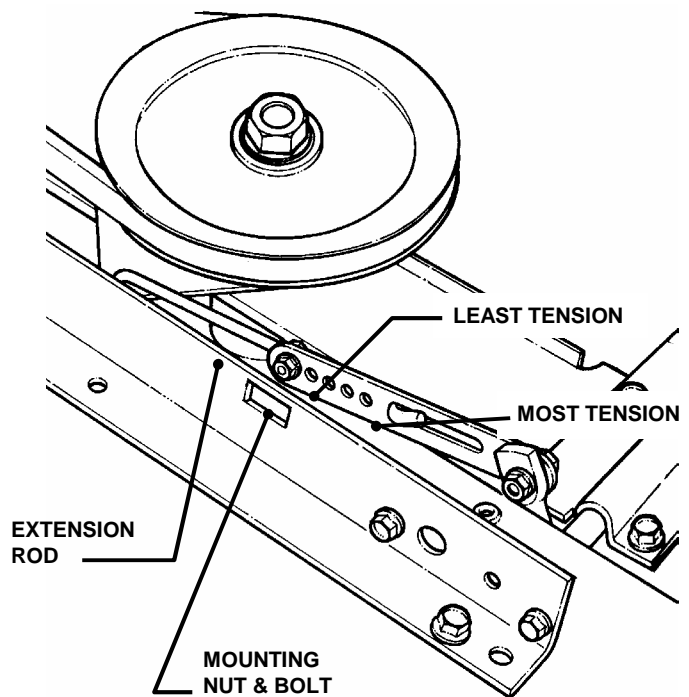

FIGURE 4.4
8. To adjust tension, remove extension rod mounting bolt and nut. See Figure 4.4.